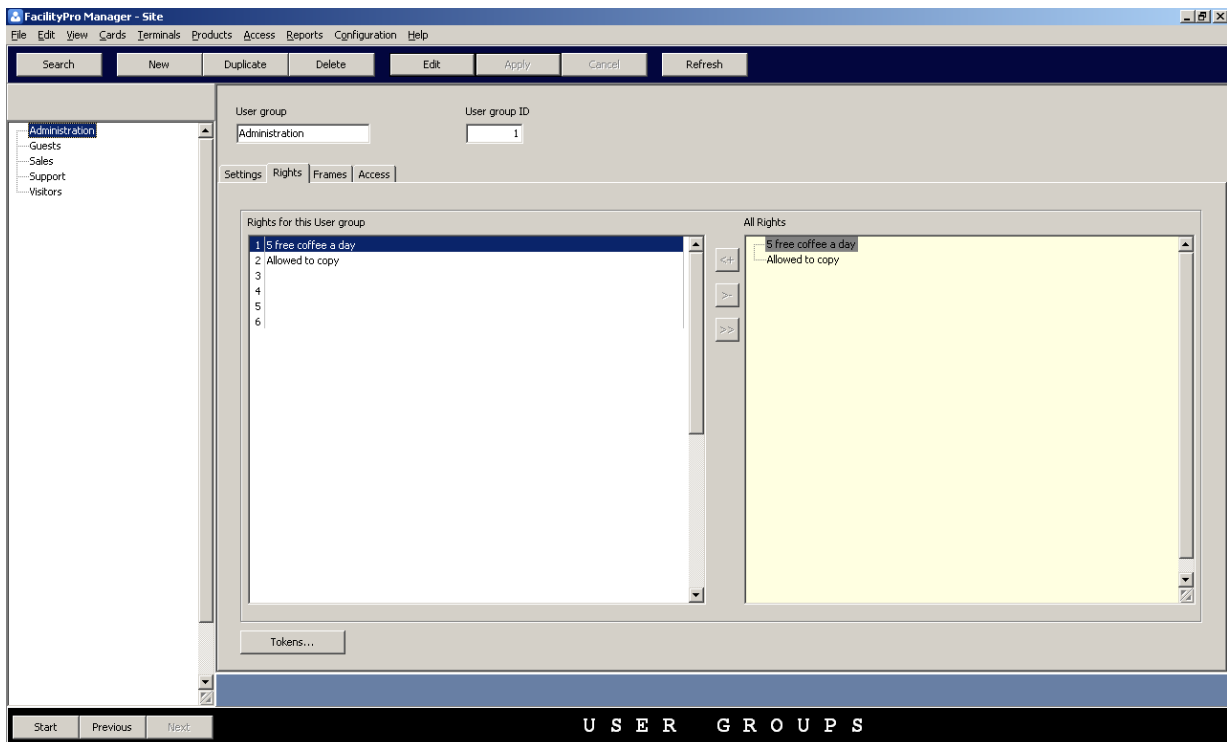

Figure 3-42 The tab 'Rights' of the user groups data screen
4. Click the tab 'Rights'. You will see the tab 'Rights' (Figure 3-42). On the right you will see a list of all the rights known to FacilityPro Manager. On the left you will see a numbered list (which might be empty) of the rights that have been assigned to this user group.
4. Click the tab 'Rights'. You will see the tab 'Rights' (Figure 3-42). On the right you will see a list of all the rights known to FacilityPro Manager. On the left you will see a numbered list of the rights that have been assigned specifically to this user group.